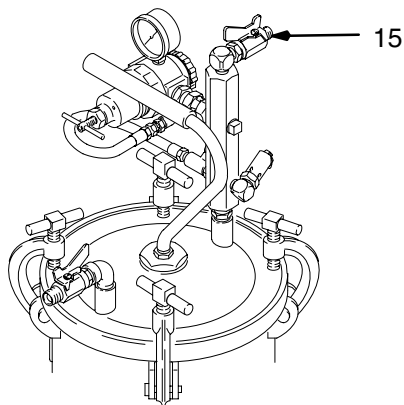

Fig. 2
1. Shut off the air supply to the tank by closing the air inlet valve (15). Refer to Fig. 2.
See Fig. 2. Connect an air supply hose to the 1/4 npt(m) air inlet valve (15) and your air supply. Install an air regulator and filter (G) upstream from the air inlet valve to remove dirt and moisture from your air supply. See **Accessories** on page 18. Connect a fluid hose (E) between the 3/8 npsm(m) outlet valve (K) and the fluid inlet of your spray gun.
Operating the Pressure Tank (See Fig. 2.)
A safety relief valve (12) will automatically relieve the tank pressure when the air pressure exceeds 95 to 100 psi (0.5 to 0.6 MPa, 6.5 to 7 bar). Refer to Fig. 2 or the parts drawings.